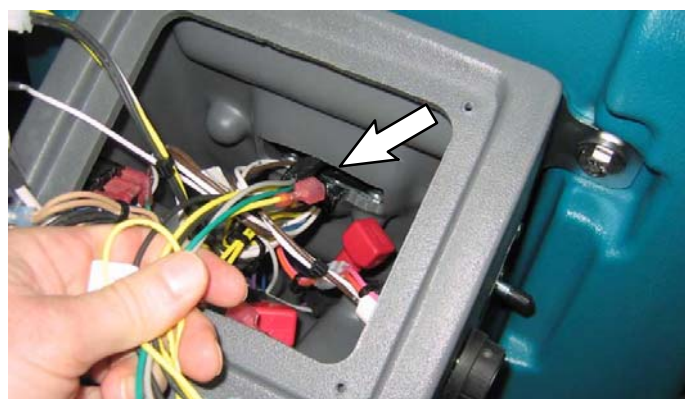

FIG. 26
12. Remove the upper control panel to access the routed telemetry harness wires (FIG. 26).